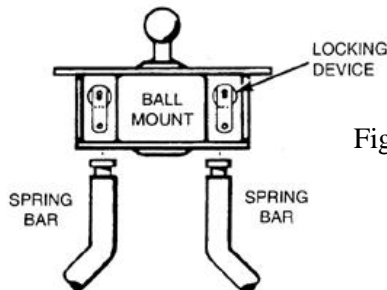

Fig. 4
4. To remove Spring Bars, just pull out on the locking device or swing bar around under the bumper and it will drop free. (see Fig. 4.)